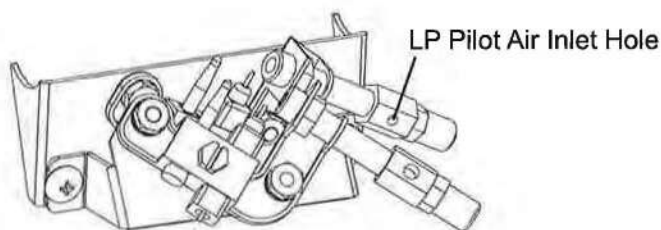

Fig. 32 - Pilot Inlet Air Hole (Propane/LP Gas)
6. In case any large clumps of dust have now been pushed into the burner repeat steps 3 and 4. Clean the pilot assembly also. A yellow tip on the pilot flame indicates dust and dirt in the pilot assembly. There is a small pilot air inlet hole about 2" from where the pilot flame comes out of the pilot assembly (see Figures 32 or 33 depending on model). With the unit off, lightly blow air through the air inlet hole. You may blow through a drinking straw if compressed air is not available.